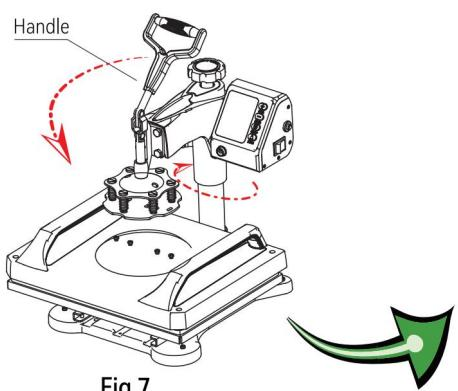

Fig 7
7. Rotate the head back to the original position and gently press down the handle so that the cup cap of the cup head screw above the pressure platen snaps into the slot and then lock it in place with a screwdriver (as shown in fig7)